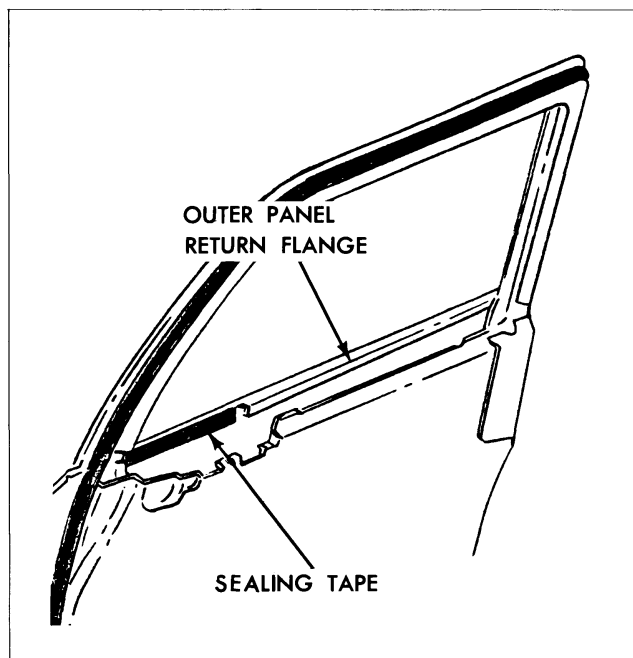
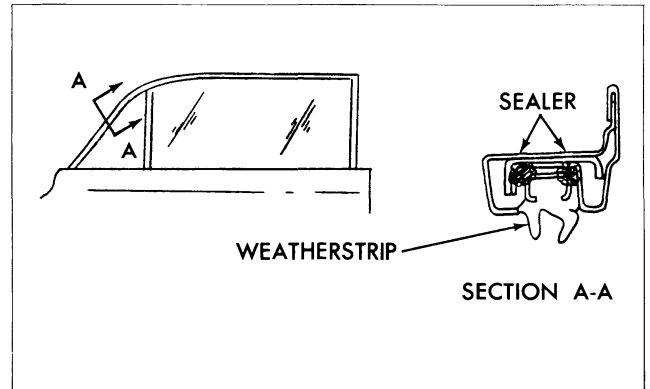

Fig. 3-31 Ventilator to Door Outer Panel Sealing
Fig. 3-32 Ventilator to Door Upper Frame Sealing
7. To install, reverse removal procedure. Prior to installation however, apply a strip of body waterproof sealing tape to door outer panel return flange along area contacted by ventilator weatherstrip. (Fig. 3-31). Also, apply a double bead of sealer (body caulking compound) in door upper frame at ventilator area as shown in section A-A of Fig. 3-32.